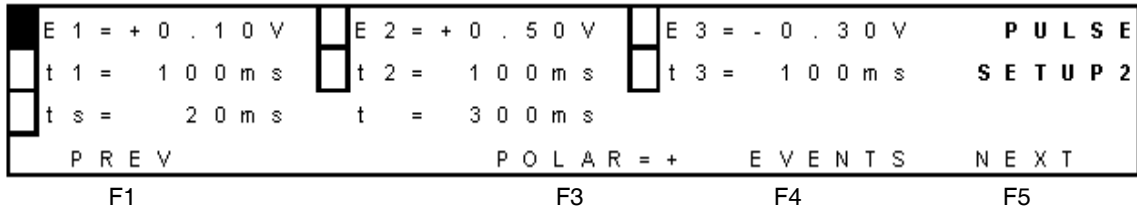

Figure 3-47 Pulse Setup2 Screen
2. Select **F5 NEXT**. The Pulse Setup2 screen appears (Figure 3-47).